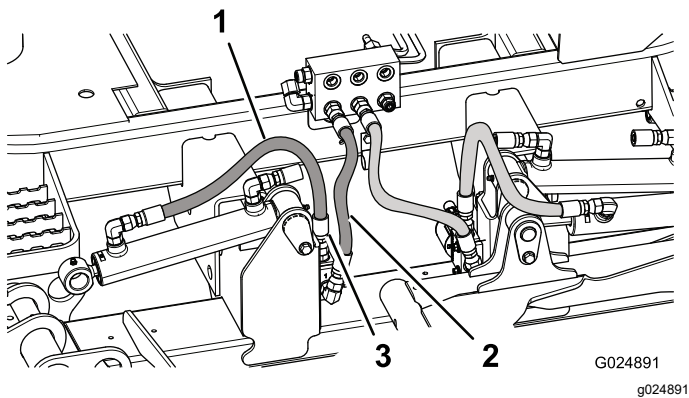

Figure 8
7. Route and install the end of the hose disconnected from the junction manifold fitting to the top (straight) fitting on the deck-lock manifold (Figure 8).
8. Route and install the new hose to the junction manifold and 90-degree, deck-lock manifold fitting (Figure 8).